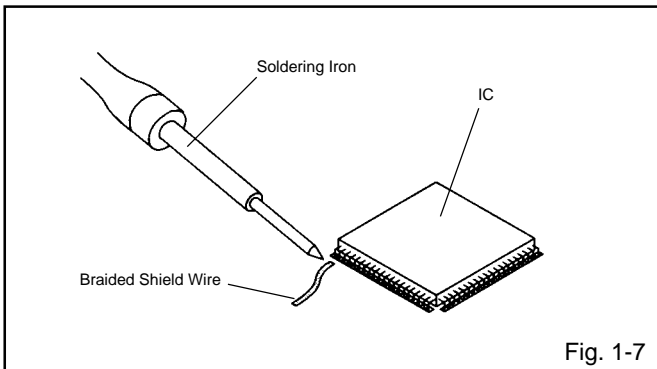

Fig. 1-7
3. Absorb the solder left on the lead using the Braided Shield Wire. (Refer to Fig. 1-7.)